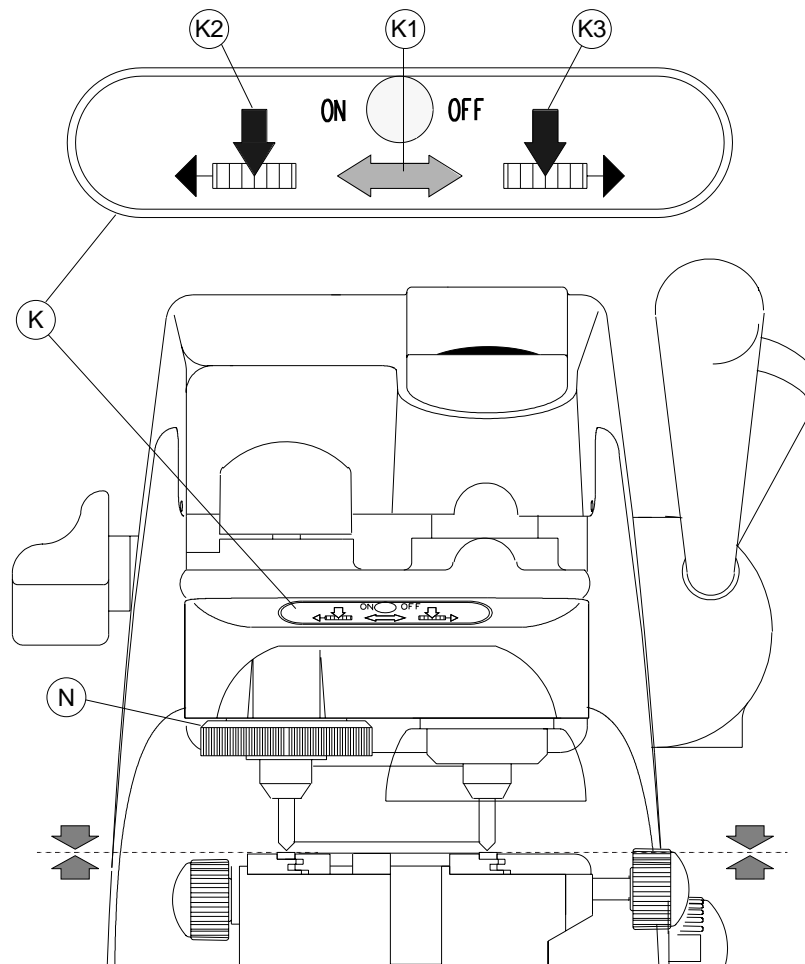

Fig. 9
- 3) Activate the electromechanical setting checker by striking the ON/OFF switch on the keypad (K) and start setting operations:
- b) when the tools come into contact with the keys, one of the three warning lights will illuminate: (K1 - green), (K2 - red) or (K3 - red) (fig. 9).